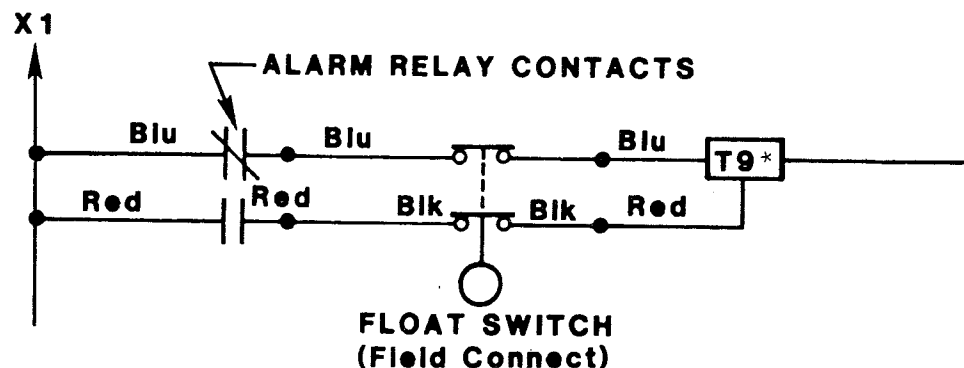
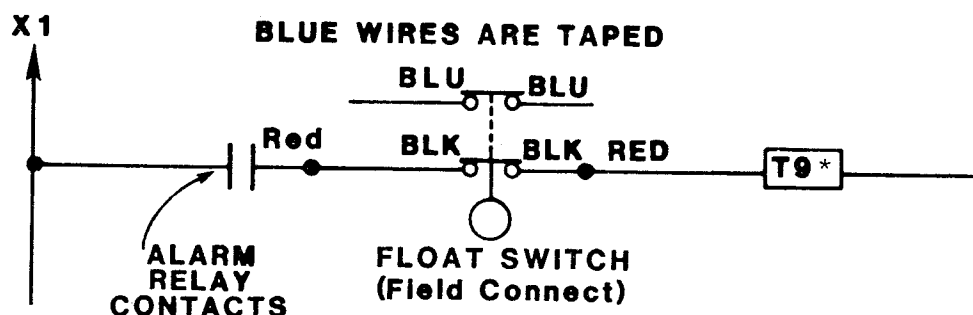

Figure IX-8
Figure IX-9
Electrical - If the compressor unit has heat reclaim, connect the color coded wires from the wiring harness as per Figure IX-8. If the unit has no heat reclaim, only the black (B) wires are connected, as per wiring diagram Figure IX-9 (without heat reclaim). Tape the blue (BLU) wires that are not used.